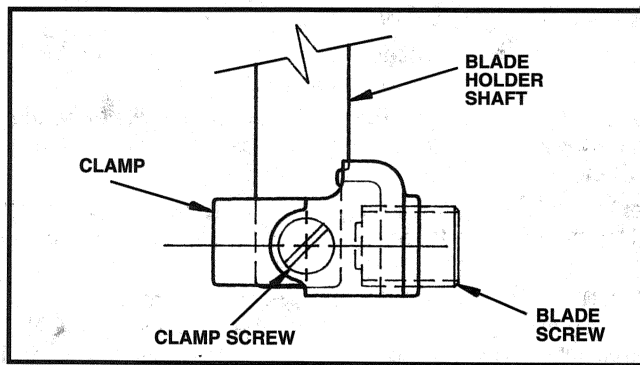

Fig. 3
3. Loosen blade screw, Fig. 3, approximately two turns with a screwdriver.
1. Loosen blade screw, Fig. 3, approximately two turns. Loosen clamp screw six to eight turns and remove clamp.
NOTE: The clamp may be repositioned to accept Porter-Cable "Hook" blades by repeating Steps 1 and 2 and positioning clamp as shown in Fig. 3. The clamp screw must be tightened securely when using "hook" type blades.